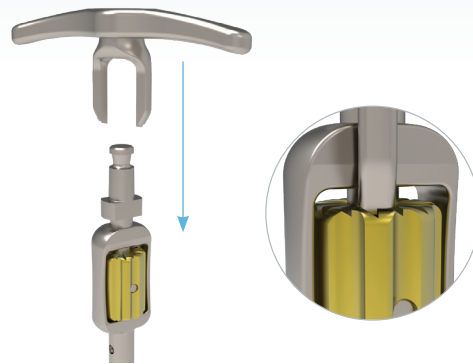

Figure 7
- Slide the thumb wheel rotator over the adapter (Figure 7) and align the two prongs over the thumb wheel.